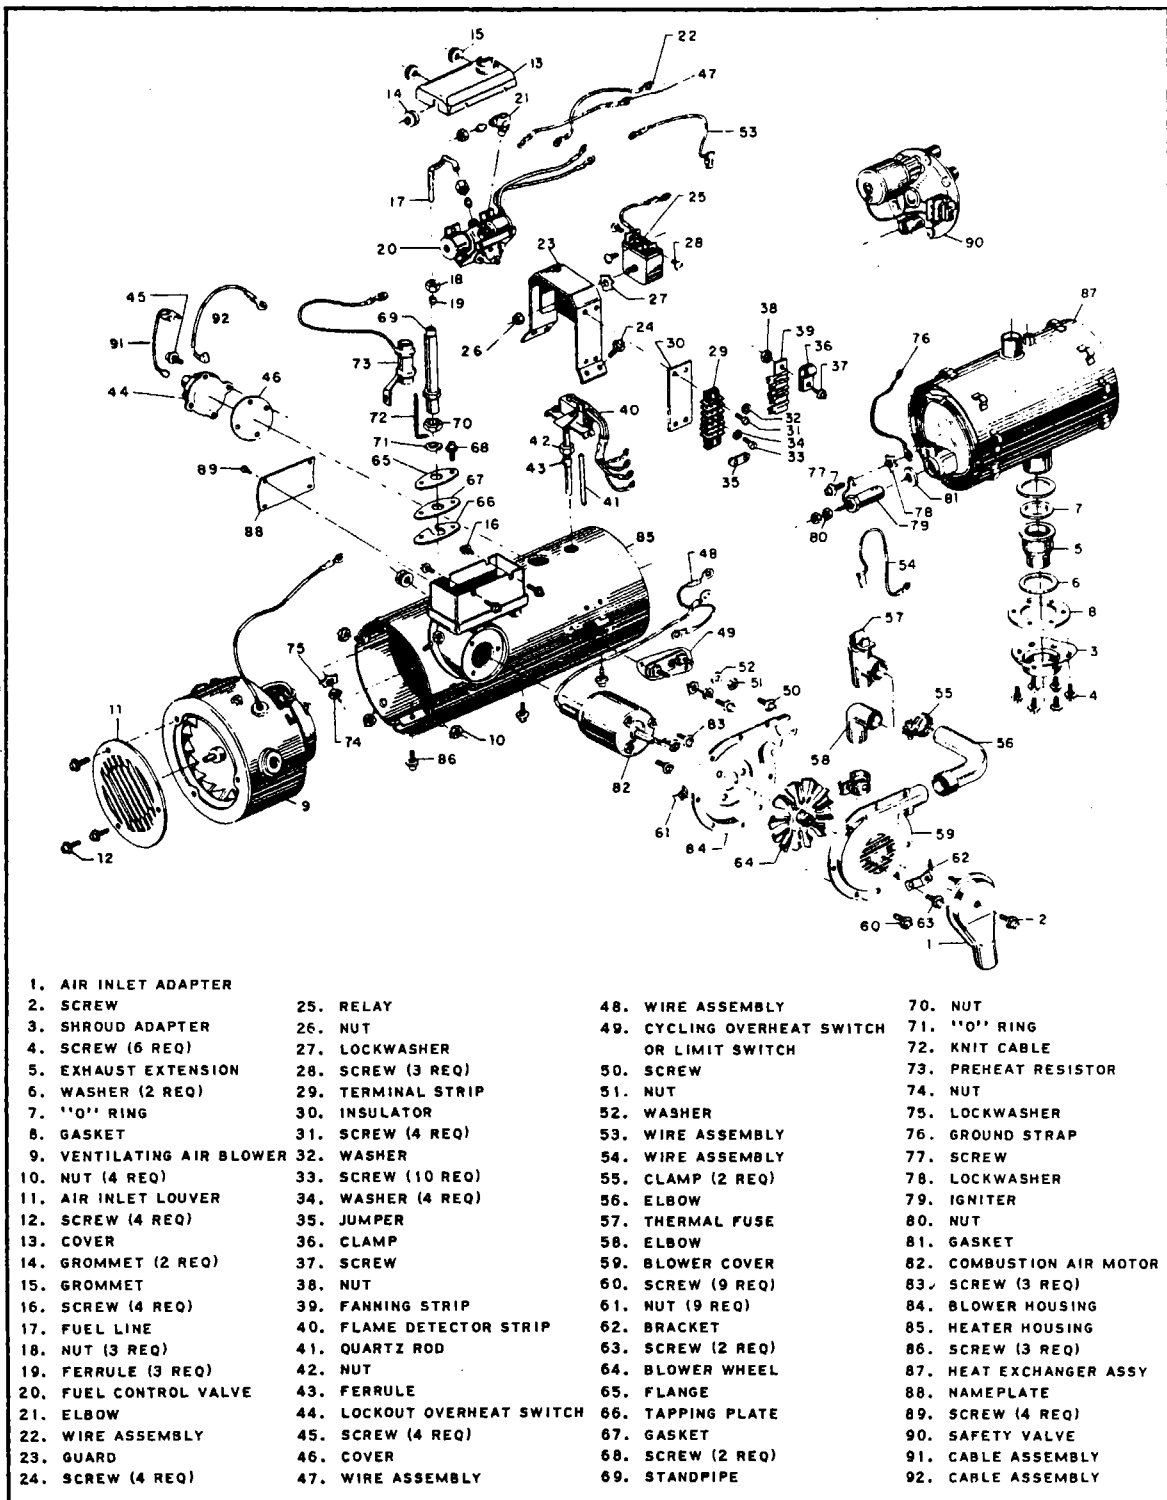

Figure 13-31. Exploded Parts View, Heater Assembly
The instructions in the following paragraphs cover all models of the 940 Series heaters. Figure 13-31 is a composite exploded parts view, showing all parts
13-100. DISASSEMBLY. (Refer to Figure 13-31.)
13-101. VENTILATING AIR BLOWER. (Refer to Figure 13-31.)
13-102. FUEL CONTROL VALVE. (Refer to Figure 13-31.)
13-103. FLAME DETECTOR SWITCH. (Refer to Figure 13-31.)
13-104. LOCKOUT OVERHEAT SWITCH. (Refer to Figure 13-31.)
a. On models so equipped, disconnect push-on lead of the lockout overheat switch (44) from the thermal fuse (57). Remove the overheat switch by removing the four screws (45). On older model heaters, the leads (91 and 92) are attached to the switch. On later production units, leads are separate.
b. On the 940-D and later production 940-B heater, the lockout overheat switch is not used, but provision for its installation has been made and the heater housing will have a circular cover plate (46) in its place. This cover need not be removed for overhaul.
13-105. CYCLING OVERHEAT SWITCH. (Refer to Figure 13-31.) On all models, remove the cycling overheat switch, or cycling temperature control switch (49) by removing the two attaching screws (50). These switches appear identical on all heaters, but are set at a lower temperature on models which have the lockout overheat switch and have a different part number.
13-106. COMBUSTION AIR BLOWER. (Refer to Figure 13-31.)
13-107. STANDPIPE AND PREHEATER RESISTOR. (Refer to Figure 13-31.)
13-108. IGNITER. (Refer to Figure 13-31.)
13-109. COMBUSTION AIR MOTOR. (Refer to Figure 13-31.)
b. After removing the parts noted above, remove the three mounting screws (83) and remove the motor (82) from inside the housing. This will also free the blower housing (84).
13-110. HEAT EXCHANGER. (Refer to Figure 13-31.) Remove the three screws (86) from the seam of the heat exchanger housing (85) and spread the housing sufficiently to permit the heat exchanger (87) to drop out through the end of the housing.